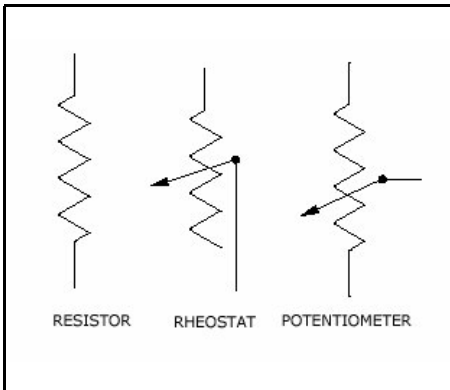

Fig 1: Resistor, Rheostat and Potentiometer.
- The Rheostat is a Resistor with one end adjustable, or it is a Potentiometer where one end is left unused (or connected to the wiper) see Fig 1.